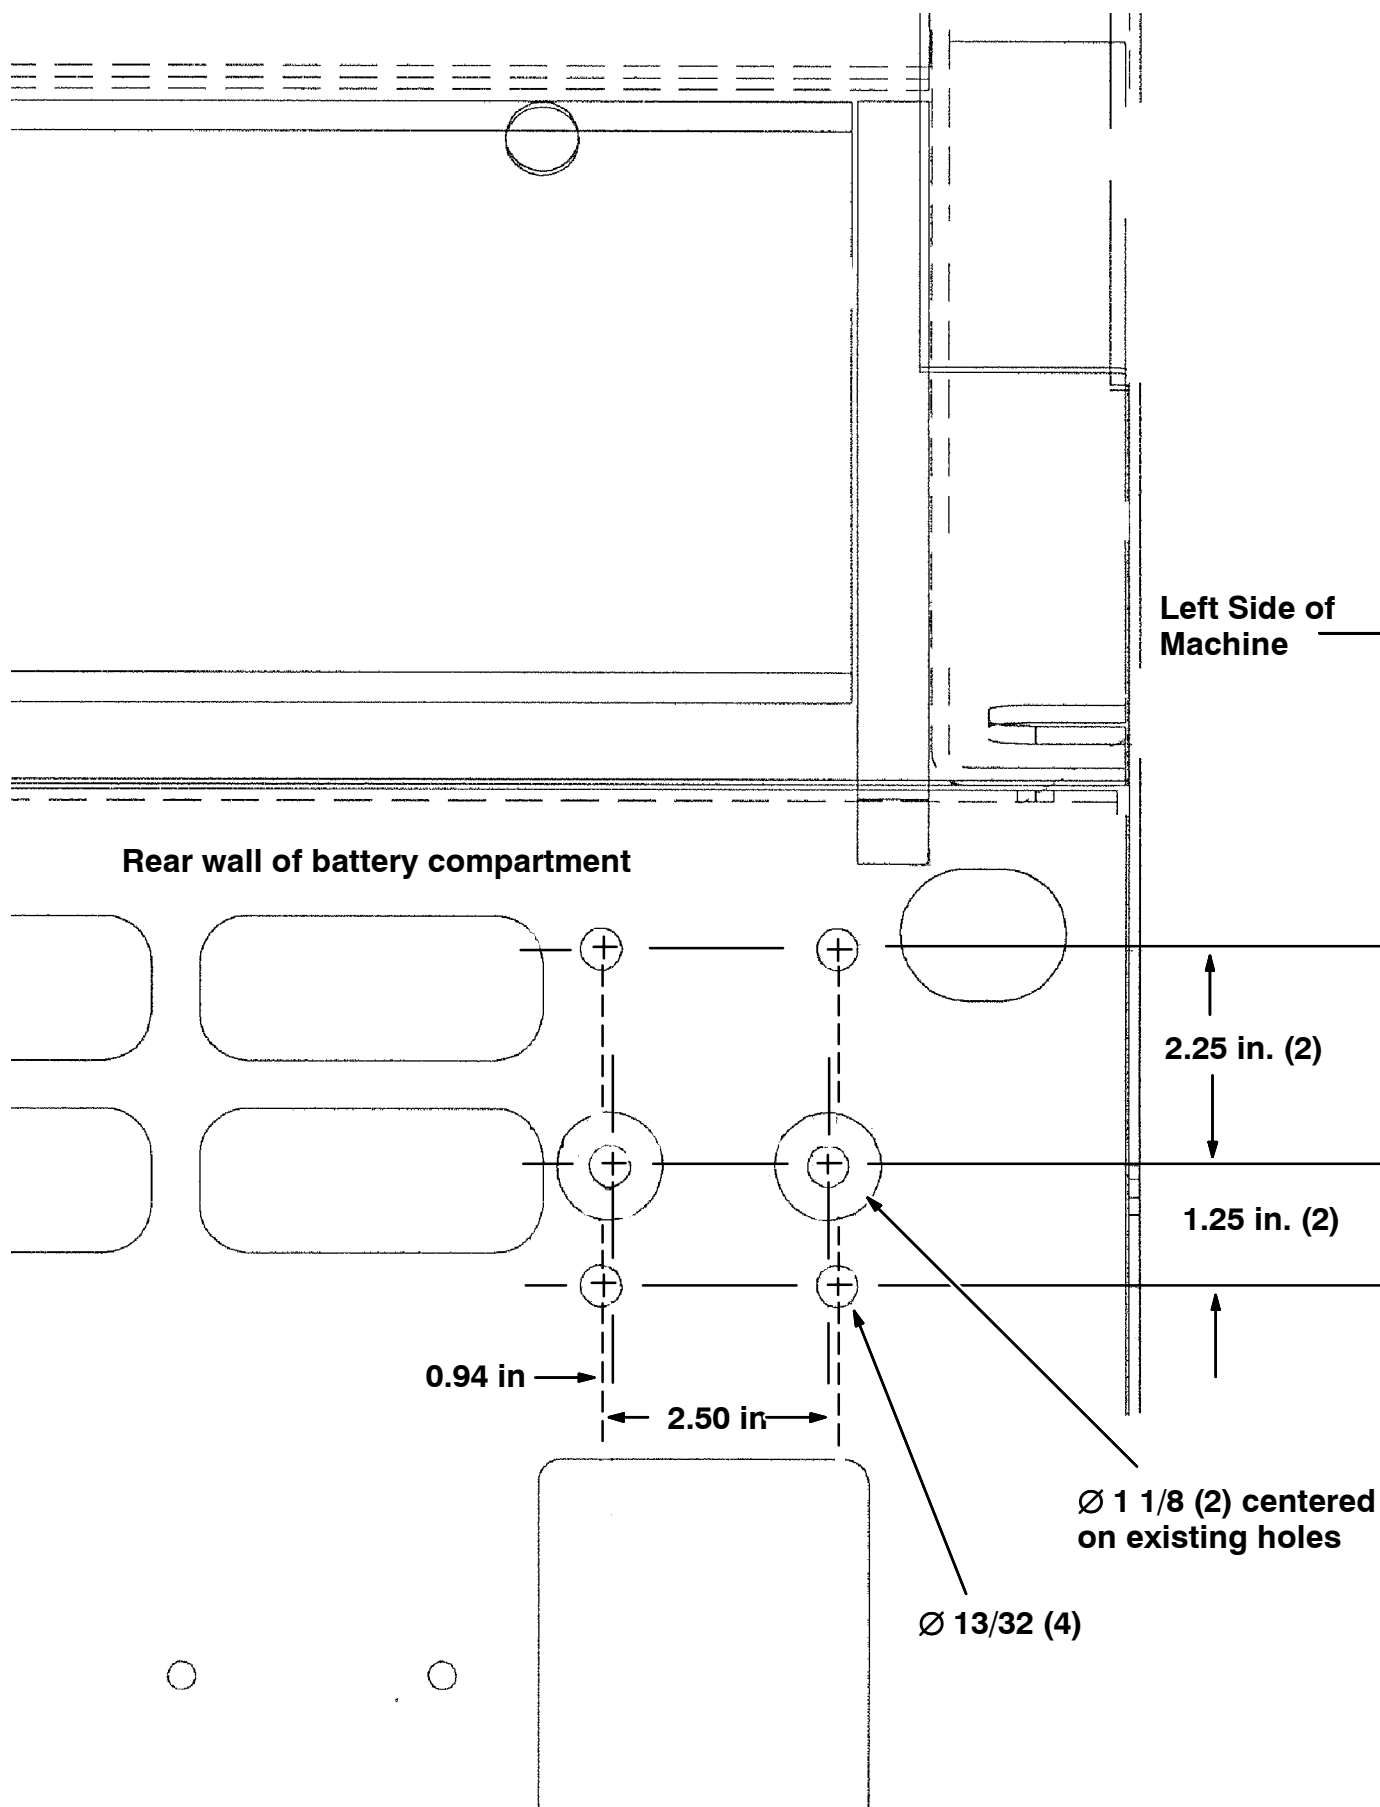

FIG. 1 - Mounting Hole Locations, Isolator, Hopper Lift Pump
(Refer to FIG. 1 and 2)
5. Drill four 7/16 in [11.11 mm] diameter holes as shown in figure one. (Refer to FIG. 1)
6. Drill two 1-1/8 inch diameter holes using the original pump mounting holes as pilots. It is recommended that a wood block be clamped behind the panel while drilling. This will reduce the distortion of the panel around the holes. These two holes are tool access holes for the pump mount bolts on the new mounting plate. (Refer to FIG. 1 and 2)